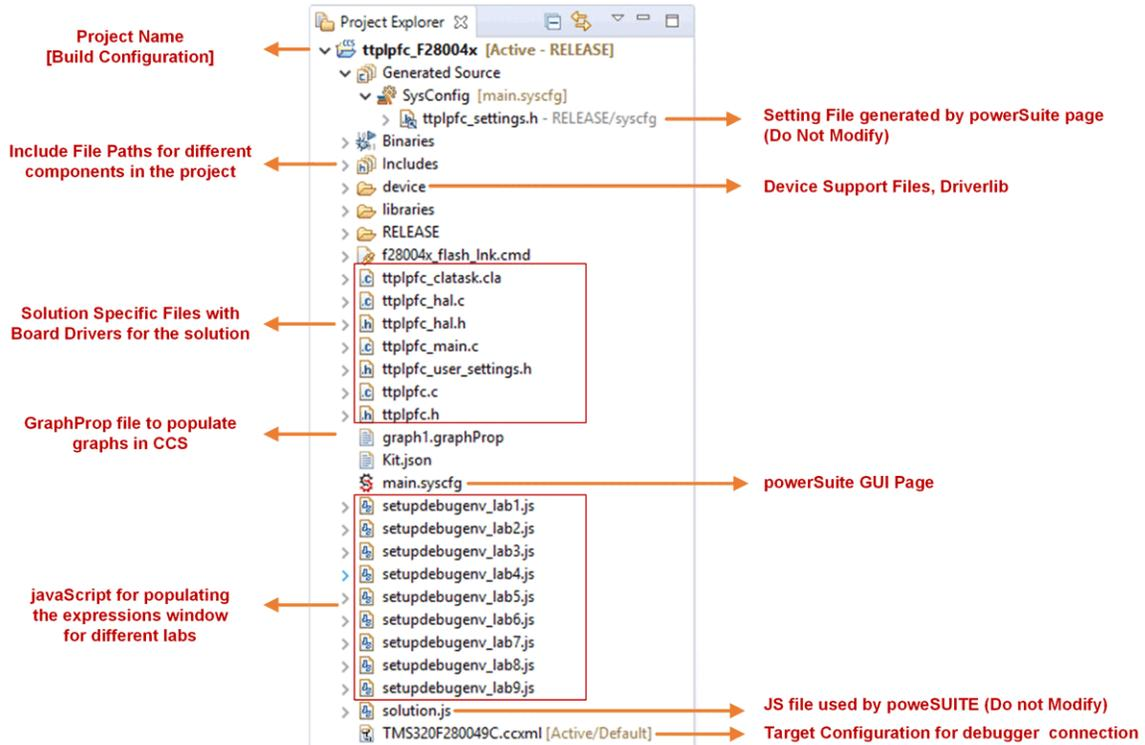

Figure 3-4. Project Explorer View of Solution Project
Once the project is imported, the project explorer appears inside CCS as shown in Figure 3-4.
- In the *Project Explorer* make sure the correct target configuration file is set as Active under *targetconfigs* (Figure 3-4).